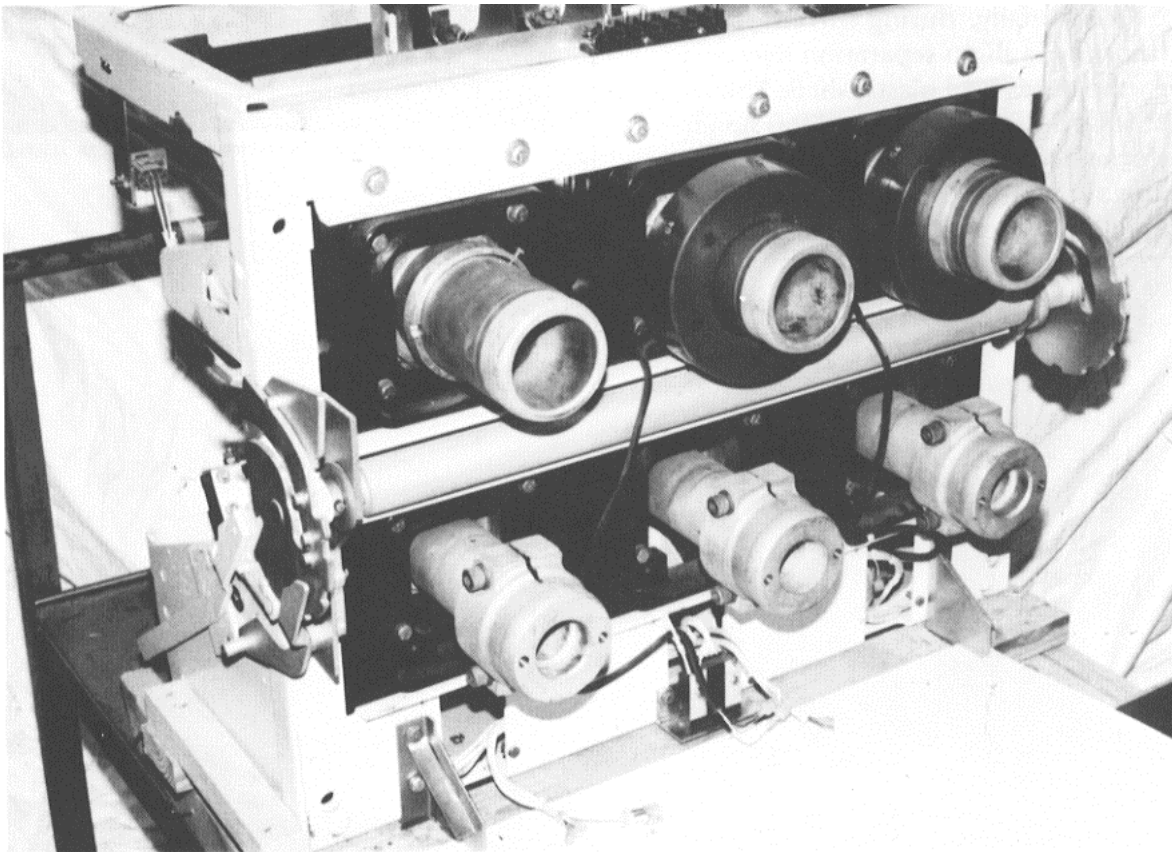

Figure 21. Phase sensor installation on AK-75 & AK-100 breakers.
1. The ProTrip phase sensors mount on the upper breaker studs, as shown in Figure 21. The sensors held on the stud with locking rings. Leave enough of the stud exposed for the primary fingers to engage. Engage the sensor's antiturn lugs with the notch in the locking ring. Before tightening the locking rings, position each sensor so that its leads exit between the pole bases, as shown.